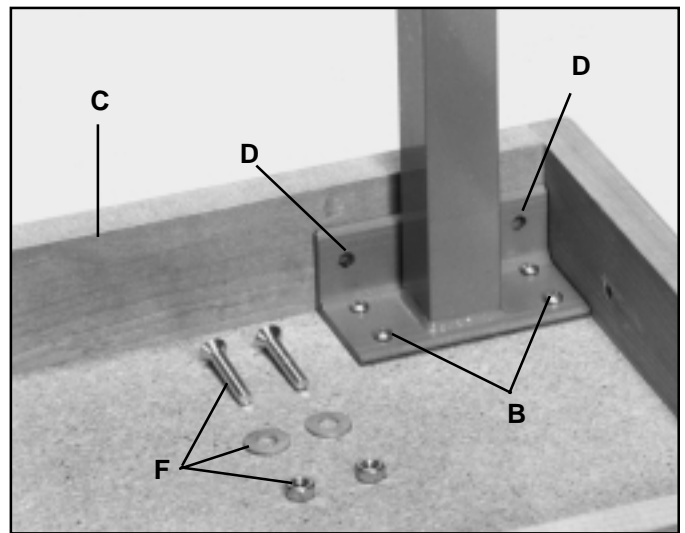
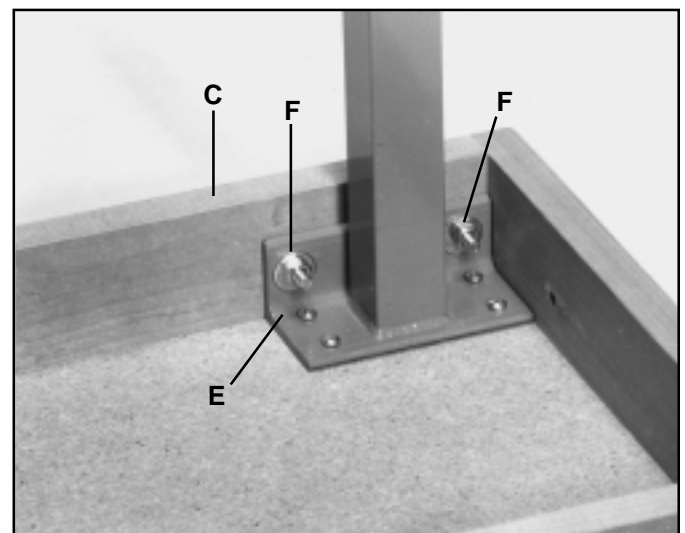

Fig. 17
Fig. 18
3. Fasten the leg bracket (E) Fig. 18, to the end piece (C) of the table using the two 1-1/2" long flat head Phillips screws, flat washers and hex nuts (F) Figs. 17 and 18, supplied. Fasten the remaining leg to the extension table in the same manner.